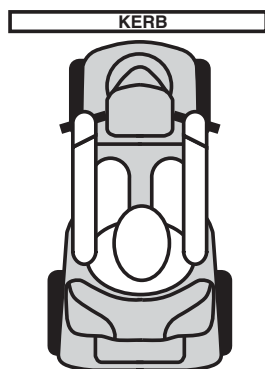

Figure 3. Correct Kerb Approach
Always approach a kerb straight on whether ascending or descending it. See figures 3 and 3A.
**WARNING! Be sure your scooter is traveling perpendicular to any kerb you may be required to ascend or descend. See figures 3 and 3A.**